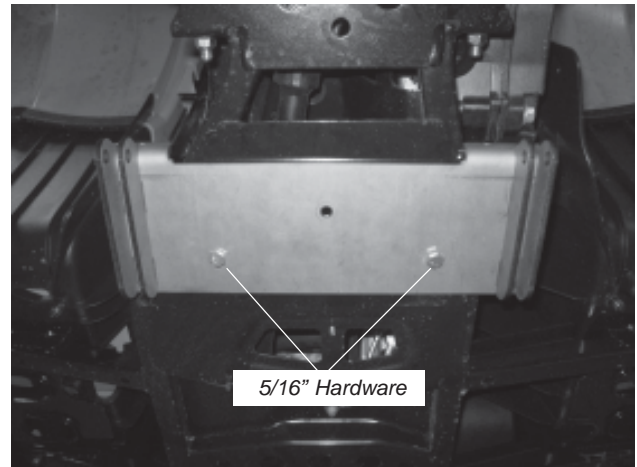

Figure 4
4. Attach plow mounting bracket to factory skid plate using two 5/16-18x1" hex head bolts (D1), two 5/16" flat washers (D2) and two 5/16-18 lock nuts (D3), see Figure 4. Torque to specifications on page two.